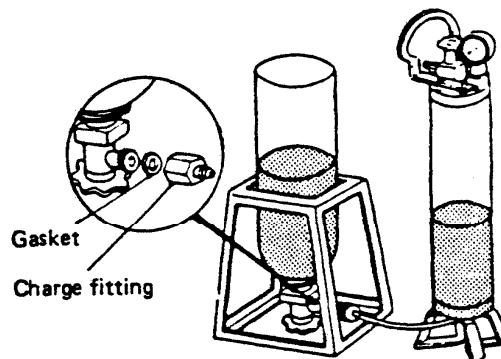

Fig. 29
- If cylinder has not yet been filled, move at least one pound of refrigerant (R22) to the charging cylinder. Fig. 29.